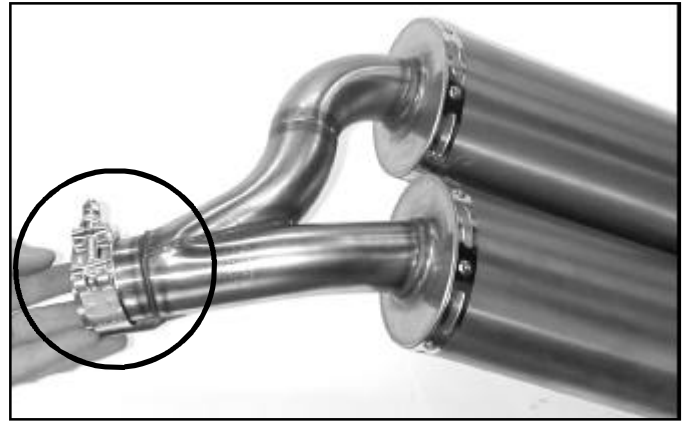

Figure 2
1. Place the clamp on the muffler inlet tube so the tightening nut is up and facing the center of the motorcycle. Figure 2.